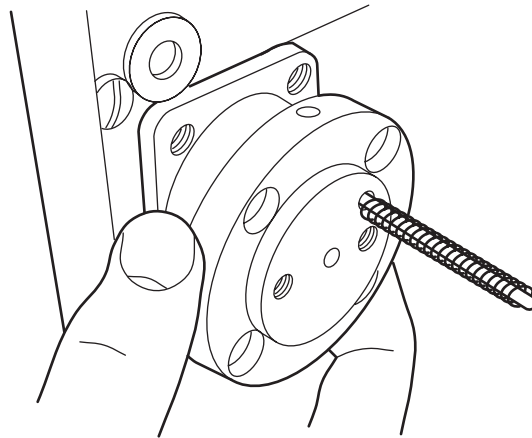

Figure 4-8 Removing the Plunger Support Assembly
4. Slide the plunger support assembly and indicator rod off the plunger (Figure 4-8).